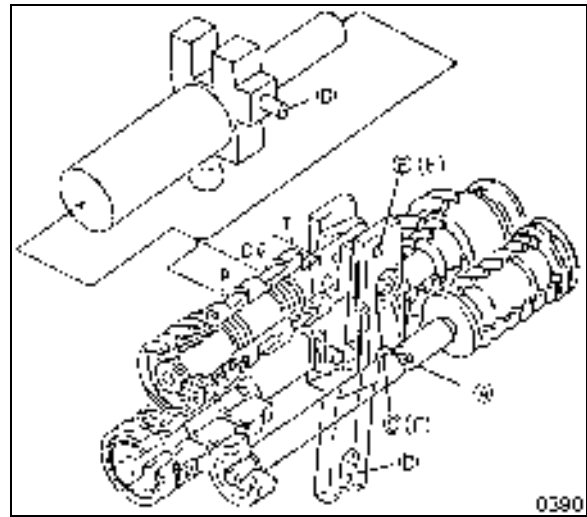
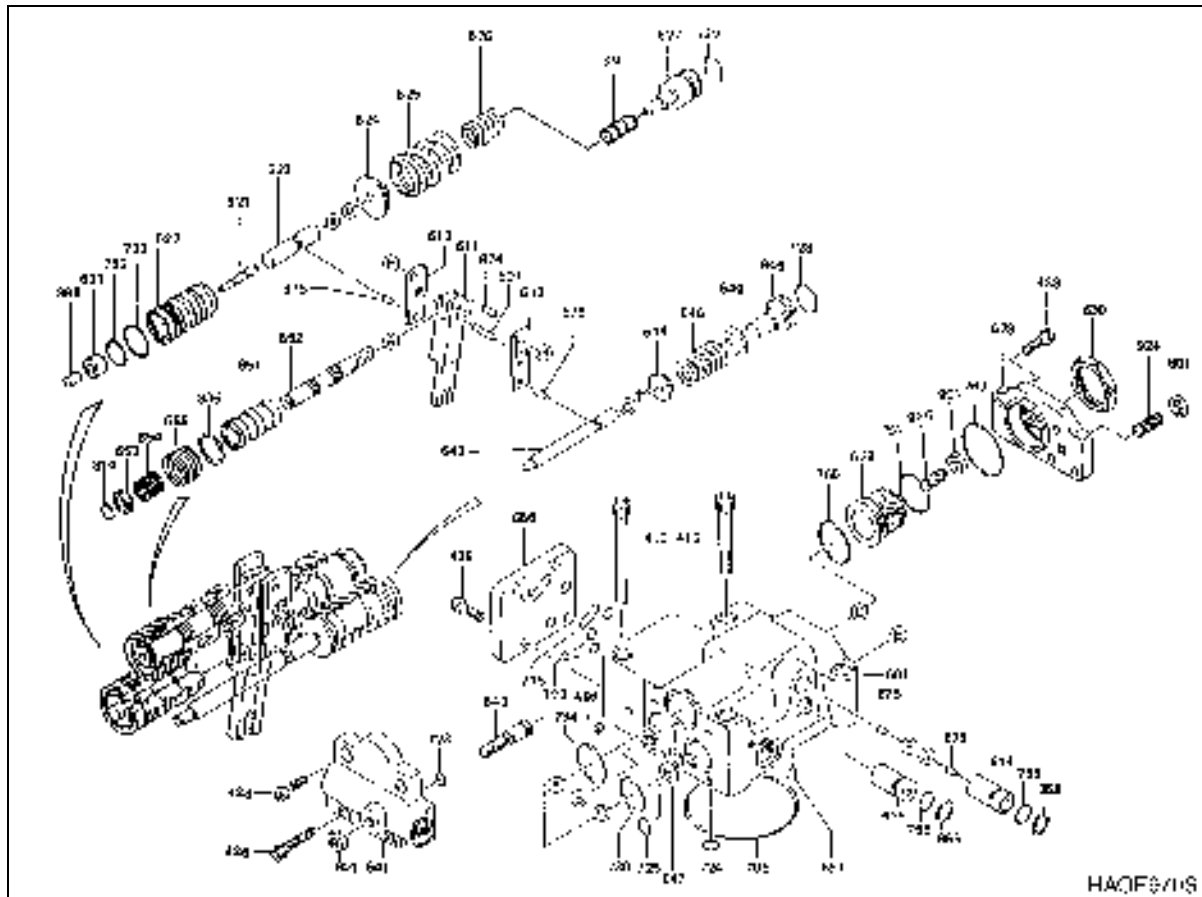

Figure 6
Figure 8
NOTE: Component parts (numbered in parentheses) correspond to those in Figure 8.
NOTE: In Figure 6, the circled capital letter "D" at the lower end of the feedback lever shows the approximate location where the assemblies shown in Figure 1, Figure 6 and Figure 8 react as the pin (897) at the top of the feedback lever moves and the piston shifts, maintaining dynamic balance through the valve between pilot pressure (P_i) and discharge output flow (Q) as shown in Figure 7.
The regulator feedback lever assembly is also pin-connected to the outermost spool (652) in the discharge port (CI) of the regulator (Figure 8). As that spool moves toward the right, in response to differences in servo pressure, the servo piston moves to the right, resulting in a decreased swash plate tilt angle and reduced pump output flow. The system is balanced and control movement of the spool (and servo piston) stops when the outermost spool (652) and spool sleeve (651) close into each other, shutting off oil movement.
When pilot pressure (P_i) decreases, the pilot piston shifts toward the left and the feedback lever assembly pivots around point "D" (Figure 6), pushing the spool and servo piston left. Swash plate tilt angle is heightened and pump output flow begins to increase as a result. Control movement of the spool and servo piston stops when the feedback lever assembly rotates around point "C" (Figure 6), moving the spool to the right until it slides into the sleeve (651) and oil movement is blocked.
Maximum and minimum discharge flow, horsepower control characteristics and discharge control characteristics can all be modified by changing the position of adjustment screws built into the pump housing (Figure 1) and the end plate of the regulator valve (Figure 8).